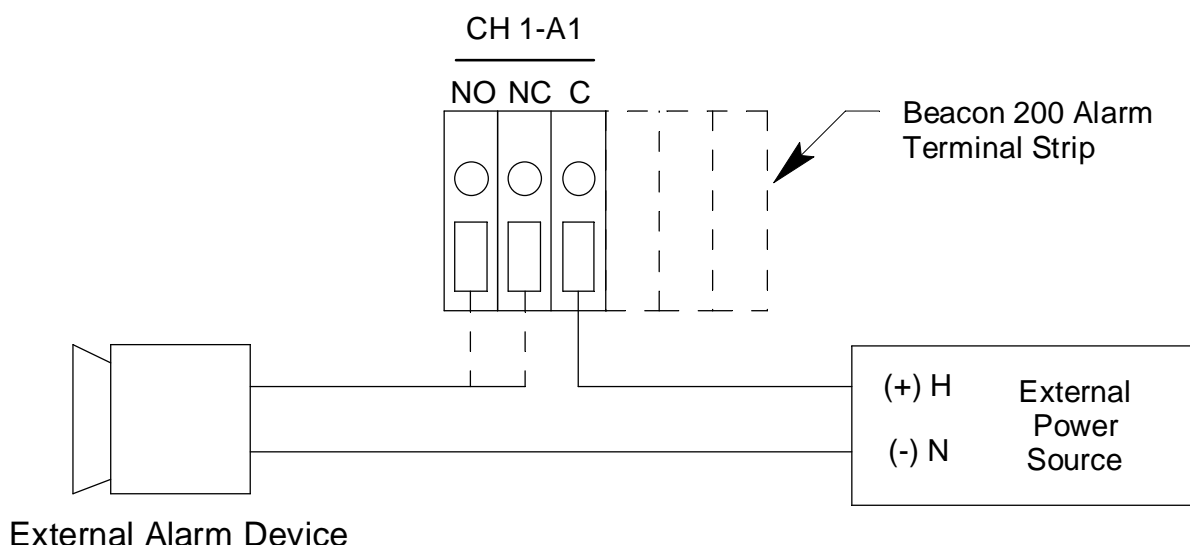

Figure 10. Typical External Alarm Wiring
5. Connect the leads from the external alarm device and power to the alarm terminals as shown in Figure 10.